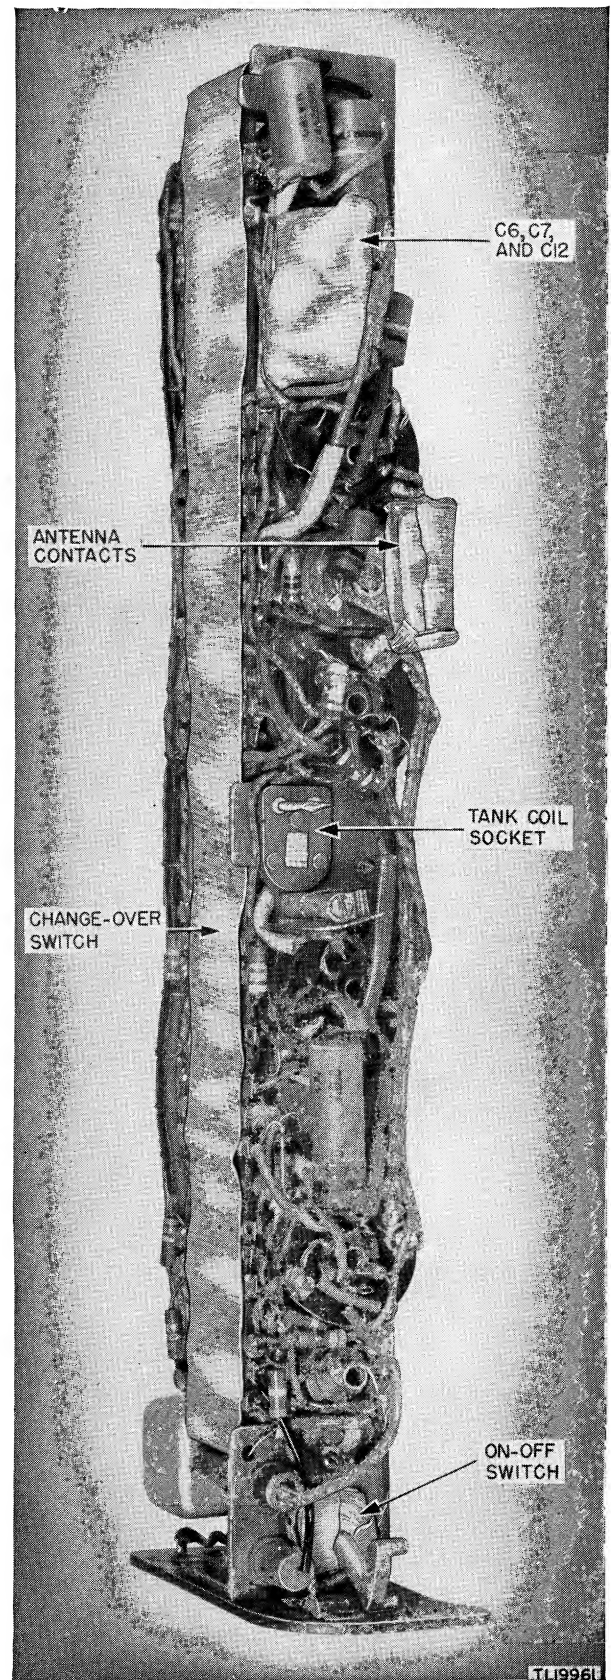

Figure 24. Radio Receiver and Transmitter BC-611-(*), (except BC-611-F), bottom of chassis, showing masking.
- (1) Complete length and width of change-over switch (fig. 24), making sure to cover all moving contacts. Work tape around parts with fingers.
- (2) Antenna contacts. (See figs. 24 and 25.)
- (3) Pins of TANK COIL socket. (See figs. 24 and 25.)
- (4) Capacitors C7 and C6 (not used in Radio Set SCR-526-F). (See fig. 24.)
- (5) Adjustment screw of capacitor C12. (See fig. 24.)
- (6) On-off switch. (See figs. 24 and 25.)